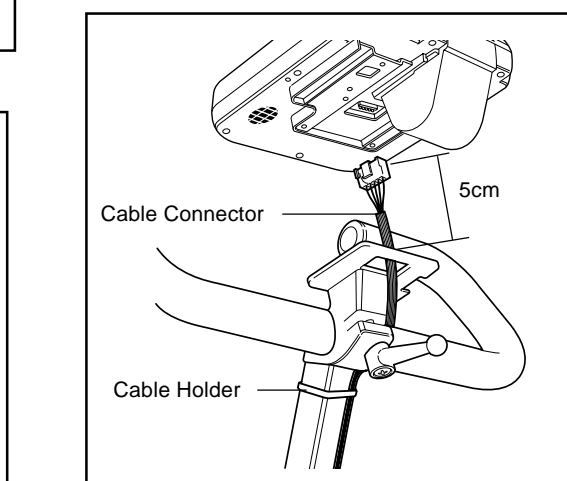

Fig. 8
2. (1)Using cable holders, fix the 5P cable to the frame, leaving the extra portion of 10cm from the top of the handlebar pipe.(2) Fix the 5P cable at the bottom of the handlebar pipe.(3) Pass the 5P cable along the handlebar pipe, and bind the sagging portion to the point (3) by using cable holders. (Fig. 8)